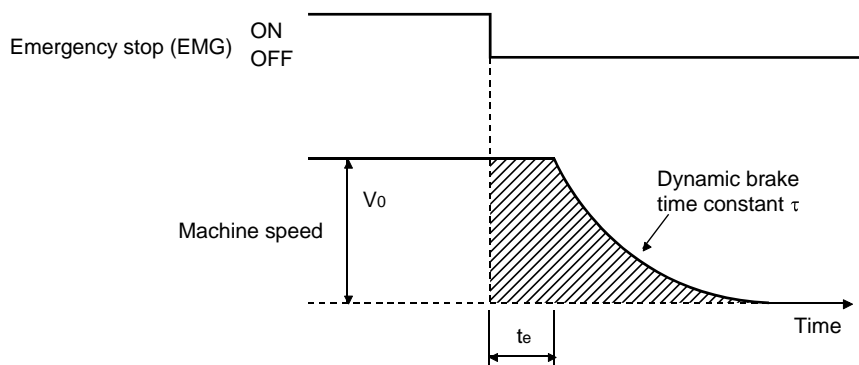

Fig. 11.3 Dynamic brake operation diagram
(1) Calculation of coasting distance
Fig. 11.3 shows the pattern in which the servo motor comes to a stop when the dynamic brake is operated. Use Equation 11.2 to calculate an approximate coasting distance to a stop. The dynamic brake time constant τ varies with the servo motor and machine operation speeds. (Refer to (2) (a), (b) in this section.)